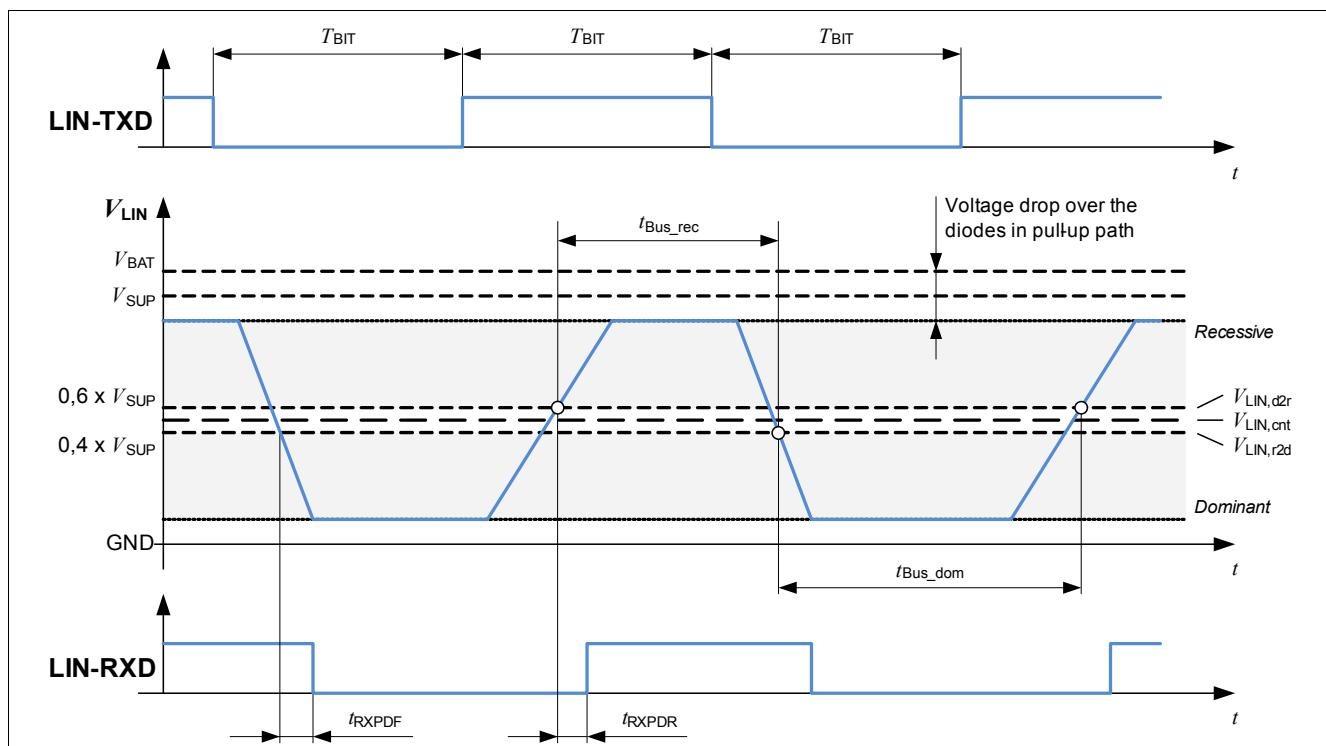

Figure 14 LIN signal specification
The transferred data bits are encoded with the value ‘0’ (dominant level, bus line is clamped to GND) or ‘1’ (recessive, bus voltage is near to V_{BA}). For a correct transmission of a bit the bus voltage must be on the respective voltage level (dominant or recessive) at the bit sampling time of the receiver. Propagation delays as well as slew rates according the LIN specification have to be considered (refer to Figure 14).
- 2) Bus loading conditions ($C_{\text{LIN}}; R_{\text{LIN}}$) = (1 nF; 1 kΩ), (6.8 nF; 660 Ω) and (10 nF; 500 Ω). For signal specification, refer to Figure 14 “LIN signal specification” on Page 48.